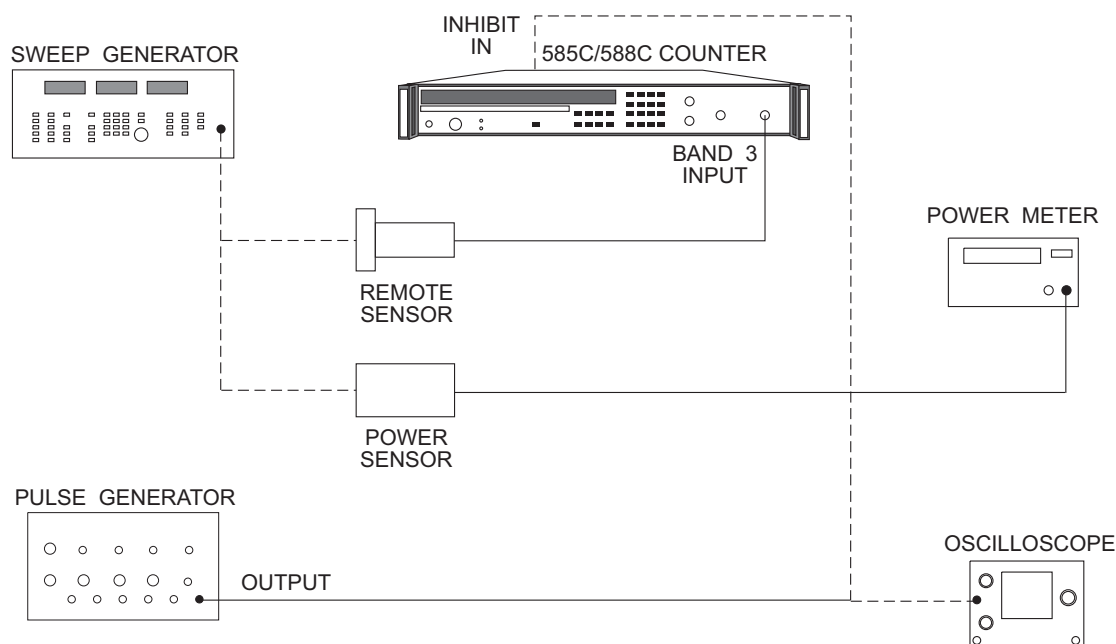

Figure 6-7. Band 3 Range and Sensitivity Test Setup (Model 588C Option 5804 Only)
1. Connect equipment as shown in Figure 6-7.